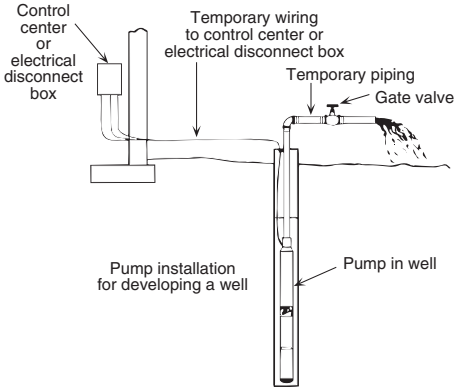

Figure 12 - Typical pump start-up
1. Connect a pipe elbow, a short length of pipe and a gate valve to pump discharge at well head (see Figure 12).
5. Set gate valve on discharge 1/3 open; start pump (see Figure 12).